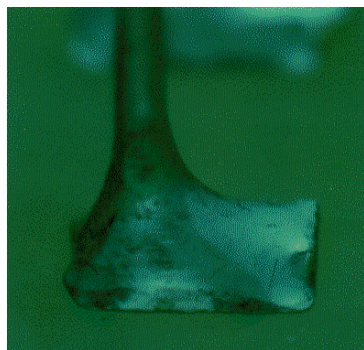

Figure 25
- C. When the solder lies over the top of the lead, the contour of the lead shall be visible, Figure 25.